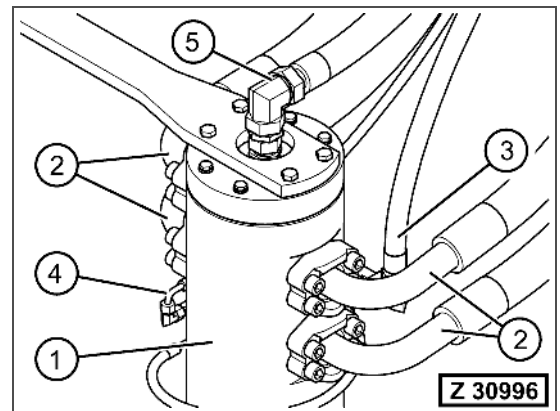

Fig. 3-556
9. Mark and disconnect the hydraulic hoses (Fig. 3-556, Pos. 2) from the rotary joint (Fig. 3-556, Pos. 1).
10. Disconnect the hydraulic hoses (Fig. 3-556, Pos. 3 to 5) from the rotary joint.